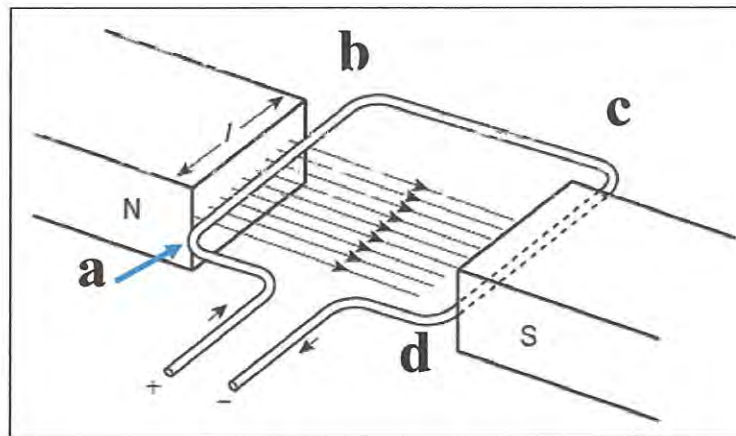

Figure Q1(d)
- (d) By using suitable Fleming's hand rule, explain the operation of **Figure Q1(d)** in terms of direction of the rotor using the help of label a, b, c and d.